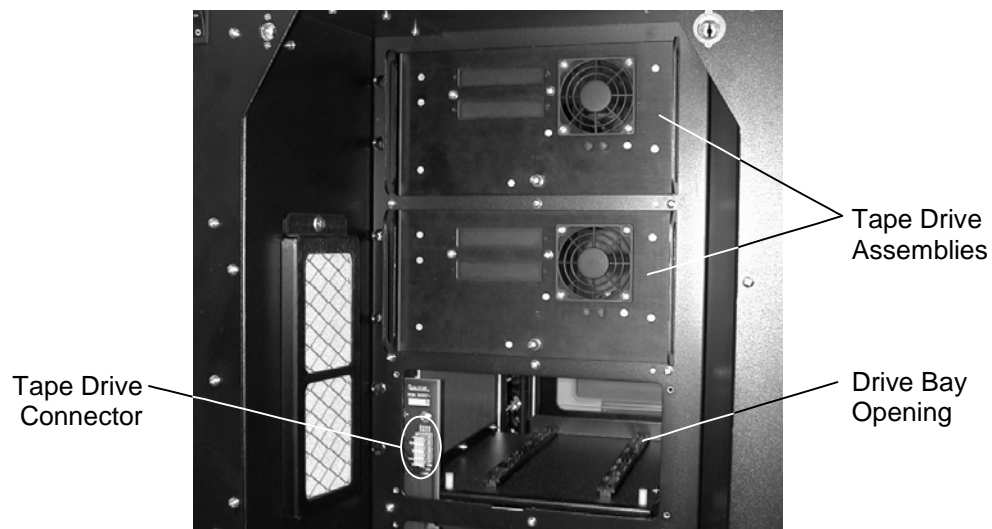

Figure 7-58 84xx Series Drive Bay with Tape Drive Assemblies
4. Carefully guide the PCBA and its Bracket through one of the openings in the right side of the TLS' frame. Maneuver the tape drive connectors on the PCBA so they are facing out the drive bay openings (Figure 7-58). Align the Brackets three holes with the corresponding threaded holes in the TLS.
6. Install two tape drive assemblies into the TLS in the drive bays that correspond to the PCBA that is being installed. Carefully align the Tape Drive Connector's on the Drive Bay PCBA with the mating connector's on the tape drive assemblies (Figure 7-58). It may be necessary to move the Drive Bay PCBA Bracket to properly align the connectors. Refer to Chapter 5 in the Installation and Operation Manual (Qualstar document number 501450) for more information on tape drive assembly installation.